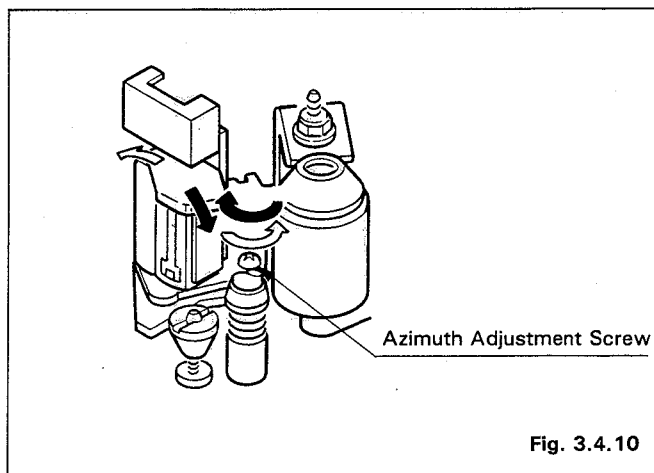

Fig. 3.4.10
- Adjust the azimuth adjustment screw so that the AC voltmeter's reading is brought to its maximum level. (Refer to Fig. 3.4.10)
1. After confirming on the oscilloscope that a 6 KHz sine wave is being output, adjust the azimuth adjustment screw so that waveform on the oscilloscope or the AC voltmeter's reading is brought to its maximum level. (Refer to Fig. 3.4.10)